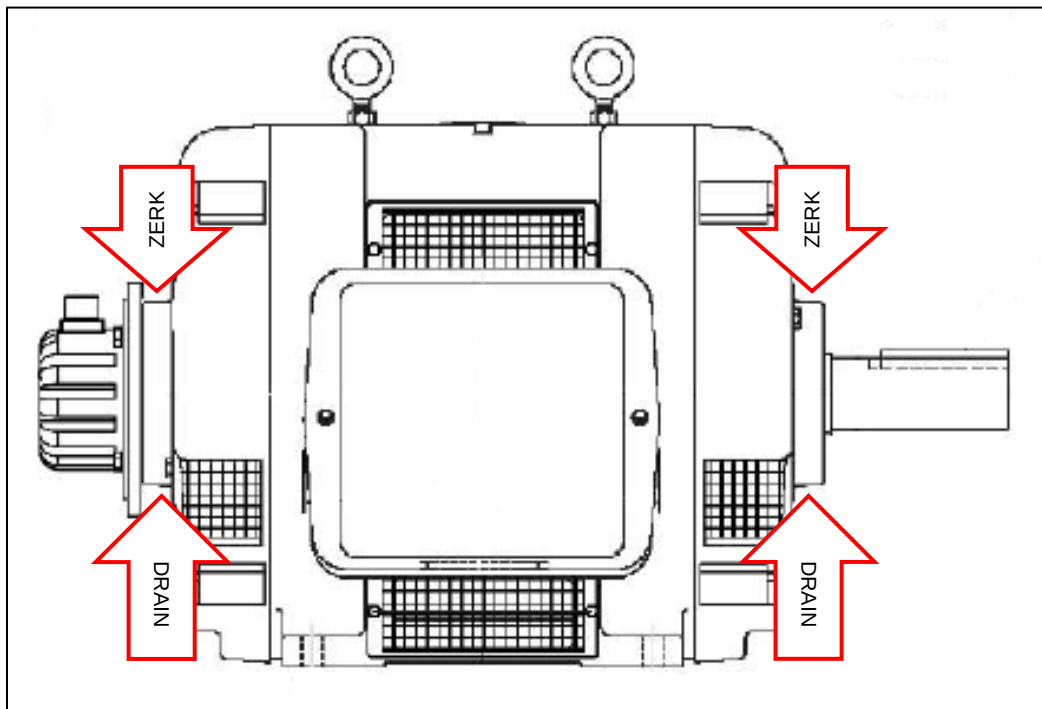

FIGURE 1.8-1: GENERATOR GREASE FITTINGS
- 4) Clean Zerk fittings on top of bearing housings and spring-loaded drain on bottom of housings (Figure 1.8-1).